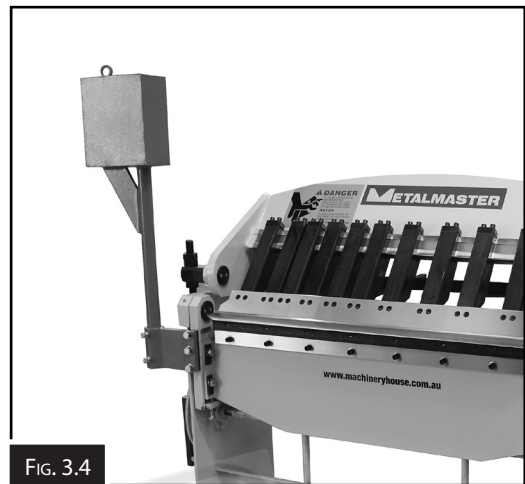

FIG. 3.4
1. With the help of a mechanical hoist lift the counter weight up and bolt it to the machine using the three bolts supplied. (Fig. 3.4)